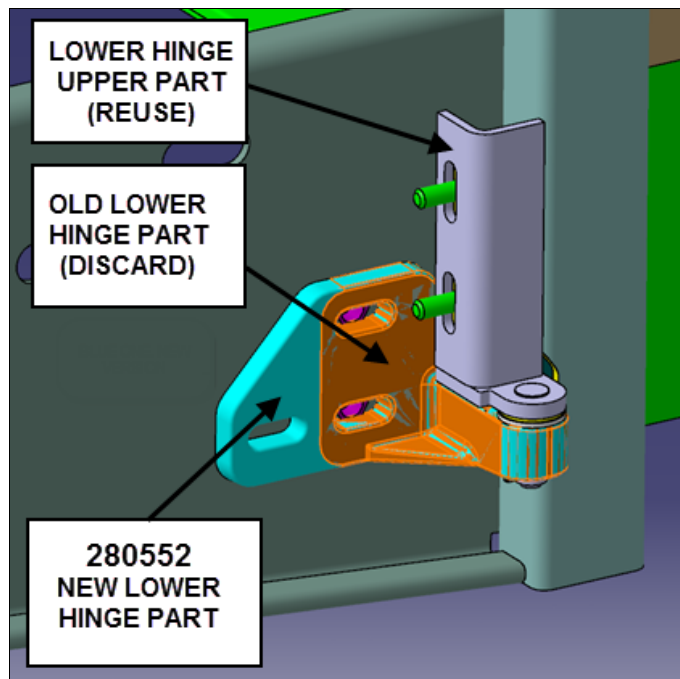

FIG.12 NEW VS OLD LOWER HINGE PARTS
- 4) Discard the *lower* (vehicle structure) part of the lower hinge and replace it with the new **280552** part supplied with the kit (reuse the door part of the hinge but discard hardware Fig.12).